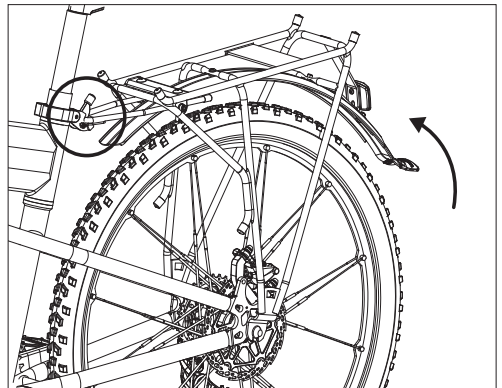

Fig. 42: Rotate RackStand and lock in place.
5. Close quick release lever and rotate RackStand up to the riding (rack) position. Ensure it is locked into mating latch (Fig. 42).